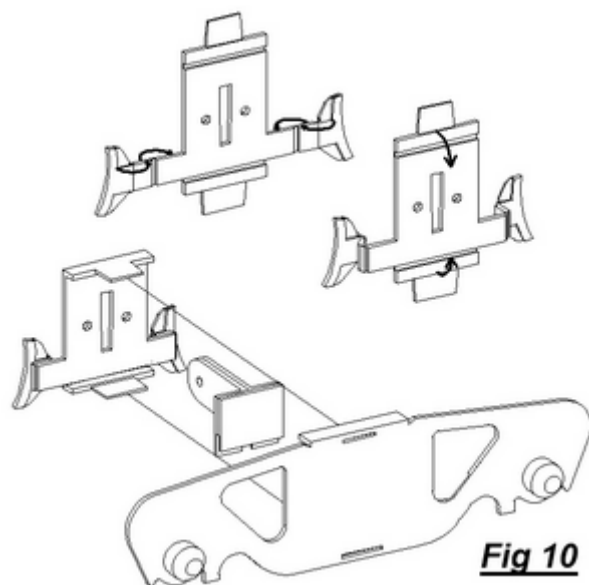

Fig 10
Remove the Slide and rocking plates (5) from the etched sheet. Fold the brake shoes back ($2 \times 180^\circ$) on themselves as a Z format (Fig 10), check the alignment, and compress with pliers. Apply flux and solder sparingly to the edge of the brake shoe fold laminate. It is important that you keep the inner and outer sliding faces of the rocking plate free of solder. Polish with a fine emery stick, if necessary, to remove any solder contamination.
Fold the edges with tabs 90° and check the fit in the back of the side frames; the tabs are of differing widths so that they will only fit one way; the wider tab on the slide plate goes into the lower slot of the side frame. Withdraw the slide plate and insert a fulcrum slide from the back, **with the spring channel at the bottom**, next to the wider tab (Fig 10).